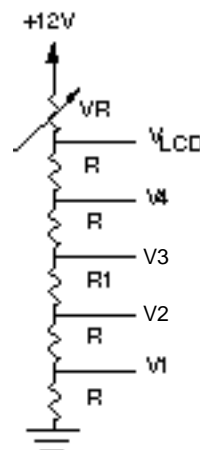

Figure 4. External Voltage Divider
These inputs are connected to V2 and V3 of an external voltage divider. See Figure 4.
**LEVEL SELECTOR** - consists of a switching circuit to select appropriate voltage levels from an external voltage divider. See figure 4.
Refer to Figure 4. In order to obtain optimum contrast for LCD panels, the bias levels should be selected such that